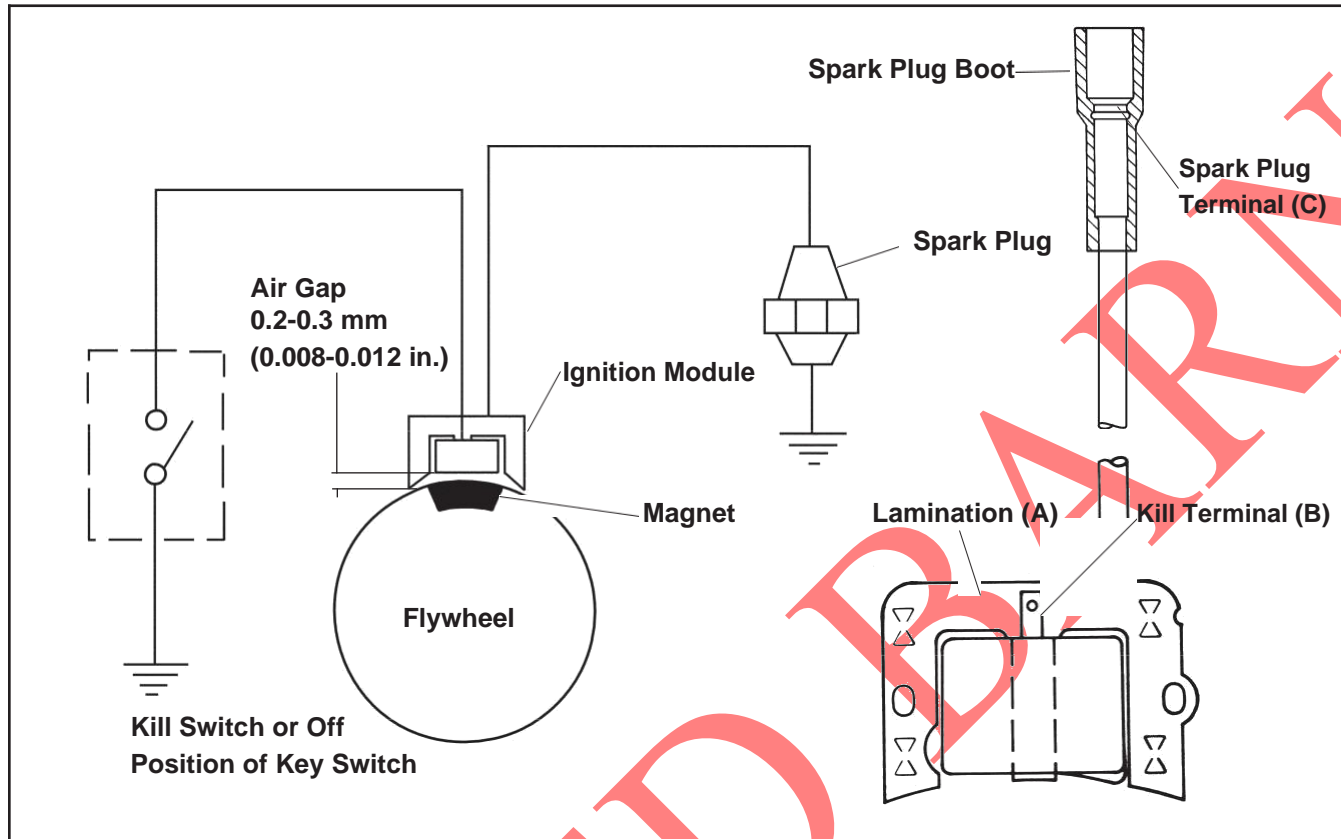

Figure 8-2. Electronic Magneto Ignition System, CV11-15, CV460-465, CV490-495 Engines.
4. Measure the resistance of module secondary using an ohmmeter (see Figures 8-2 and 8-4): Zero ohmmeter before testing. Connect one ohmmeter lead to laminations (A). Connect the other lead to the spark plug terminal (C) of high-terminal lead. With the ohmmeter leads connected in this manner, the resistance of secondary should be 7,900 to 18,400 ohms . NOTE: This test cannot be performed unless module has been fired at least once.	4. If the resistance is low or 0 ohms , the module secondary is shorted. Replace the module*. If the resistance is high or infinity ohms , the module secondary is open. Replace the module*. If the resistance is within the specified range, the module secondary is OK. *Refer to the Disassembly and Reassembly Sections for complete ignition module removal and installation procedures.